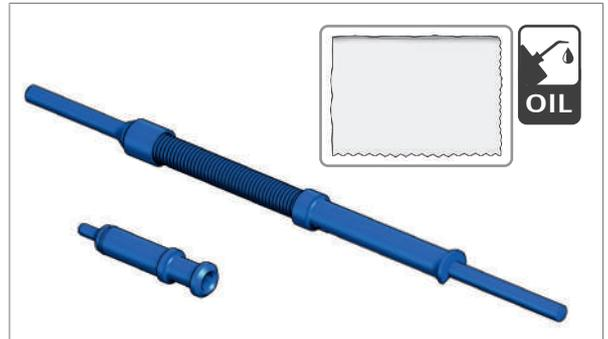

Fig. 113: Clean parts of gas operation
1. Lubricate parts of gas operation (Fig. 113).
3. Clean and dry parts of gas operation using cleaning rag (Fig. 113).